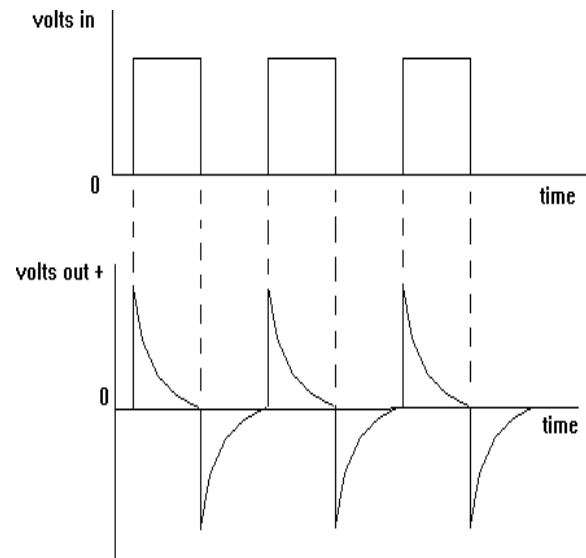

Fig 3.4 Output waveform of Differentiator
5. The frequency response of the basic differentiator is shown in fig 3.4 In this fig f_a is the frequency at which the gain is 0 dB.
shown in fig 3.4. From f to f_a the gain decreases at 40dB/decade. This 40 dB/decade change in gain is caused by the R_1C_1 and R_FC_F combinations